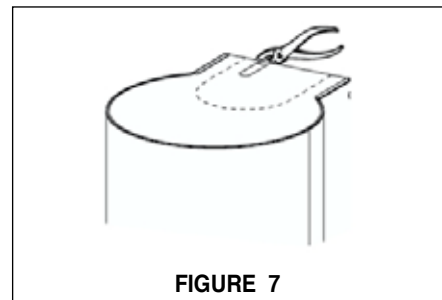
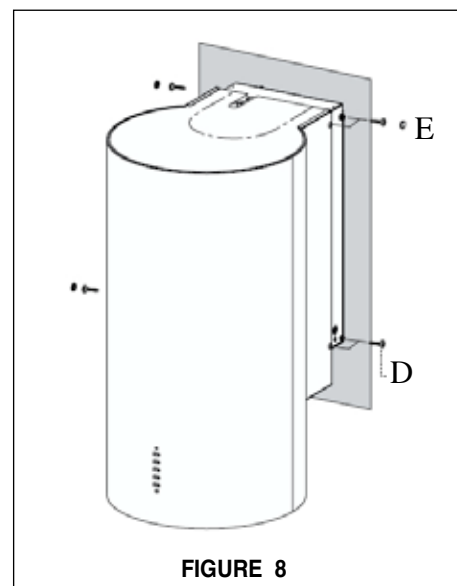

FIGURE 7
FIGURE 8
1. If ducting out of the top of the hood, carefully remove the pre cut metal piece at the top of the hood body (FIGURE 7).
3. For all ducting directions, using 4 screws (D in FIGURE 8), to attach the hood body to the support frame on the wall, cover screws with (E screw covers in FIGURE 8).
2. Remove the pre cut piece at the top of the hood body (**FIGURE 7**). Using 4 screws (**D in FIGURE 8**), to attach the hood body to the support frame on the wall, cover screws with (**E screw covers in FIGURE 8**).